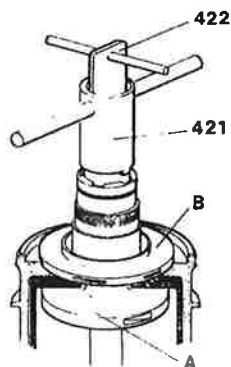

Fig. 4/4
- 15) Use annular wrench 425 and lifting device 431 to place bowl lock ring onto bowl bottom (see fig. 4/6). Screw in the lock ring (left-hand thread) with the aid of the annular wrench (without hitting the wrench handle with a mallet) until the "O" marks on ring and on bowl bottom are 3 to 5 cm apart. Then hit wrench handle with mallet 405 to obtain "O" mark alignment.